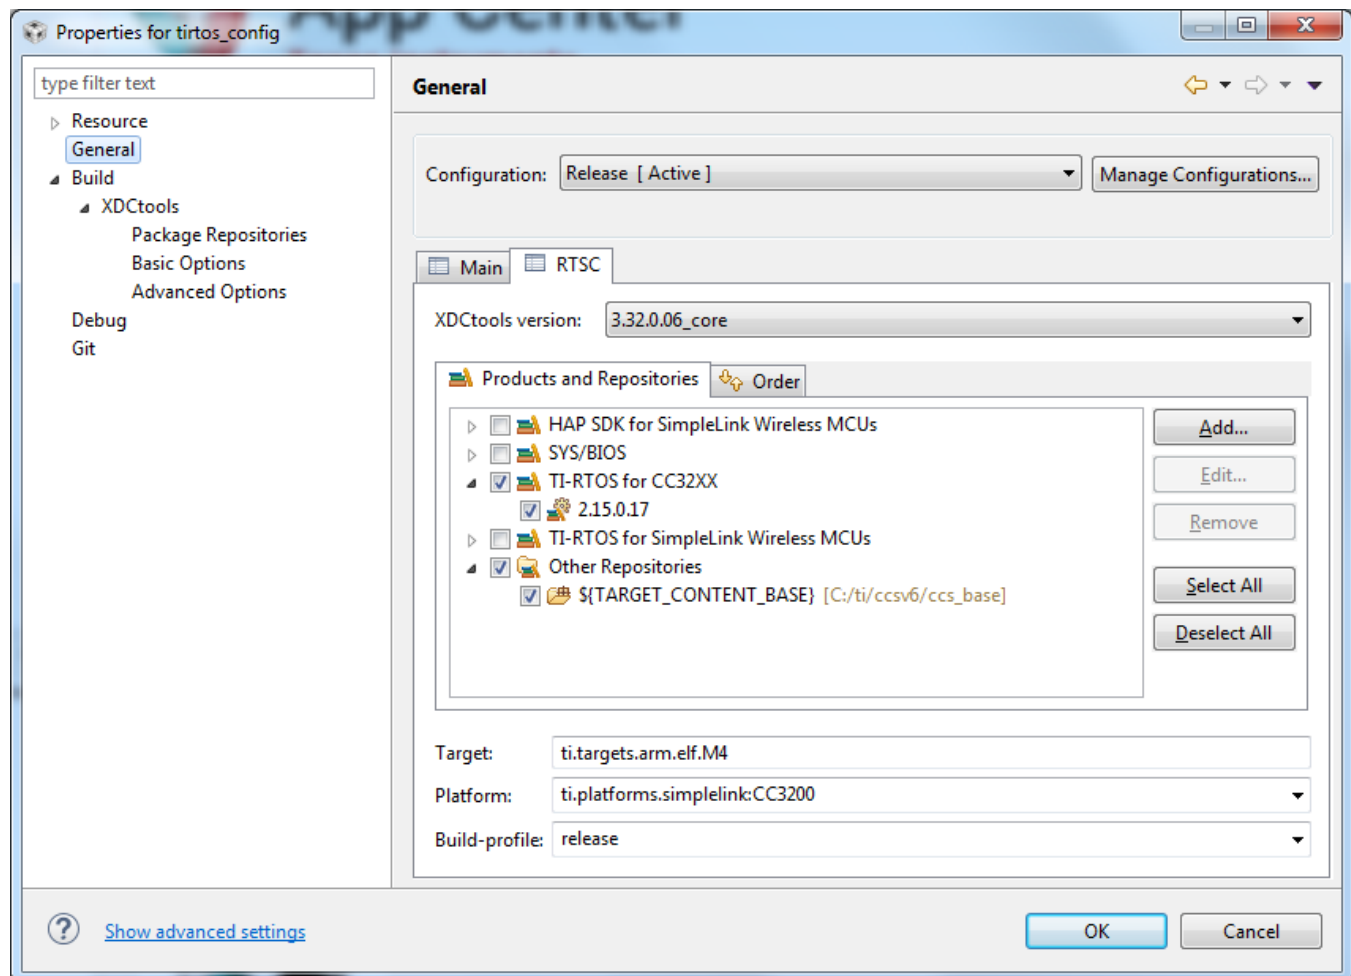

Figure 7. Properties for ti_rtos_config
4. Select the `ti_rtos_config` project in Project Explorer, and select Project>Properties from the menu. Under General, select the RTSC tab as shown in Figure 7. Select the latest versions of XDCtools and TI-RTOS for SimpleLink (not shown in Figure 7). Also verify the platform is selected as `ti.platforms.simplelink:CC3200`.